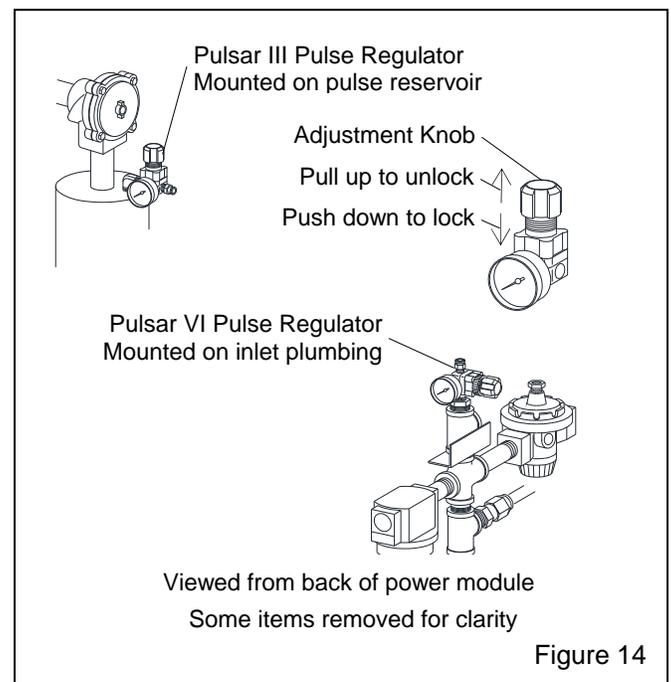

Figure 14
5.6.1 Adjust pulse pressure using the regulator mounted on the pulse reservoir on Pulsar III models and on the pulse inlet plumbing on Pulsar VI models (refer to Figure 14). Begin pulse at 60 psi. To adjust pressure, pull the knob to unlock it, as shown in Figure 14, turn clockwise to increase pressure or counterclockwise to decrease pressure. Once operating pressure is set, push the knob to lock it and maintain the setting.